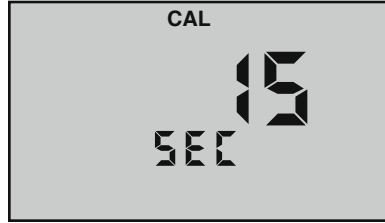

Figure 24
4. Press  to initiate. “CAL” will be displayed along with “15 SEC” (see Figure 24).